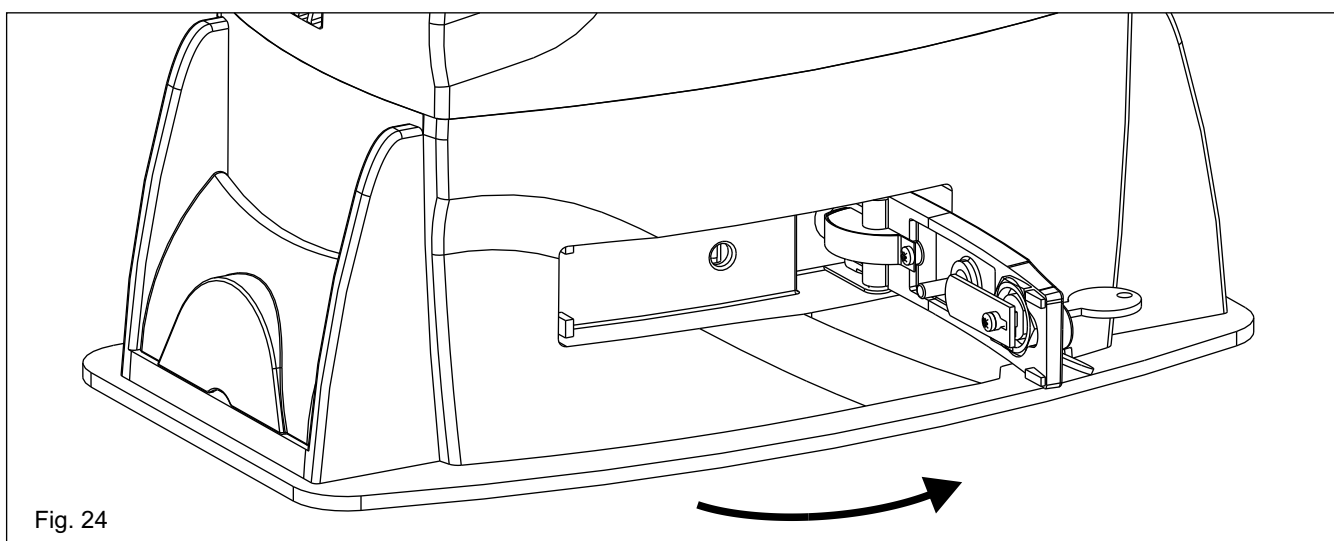

Fig. 24
- Pull the release lever until it stops, about 90° approximately (Fig. 24).